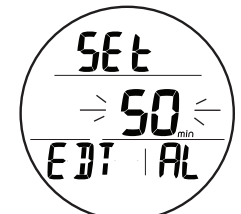

Fig. 52 - SET EDT AL
**Set EDT Alarm**, information includes (Fig. 52):